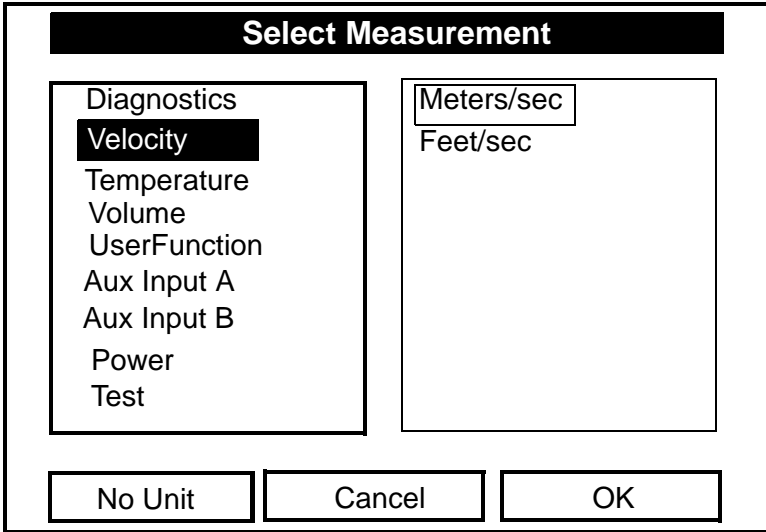

Figure 3-16: Data Source Selection Window
- The next prompt asks you to select the analog output type from a list of choices, as shown in Figure 3-16 below.
- a. Press [ENTER] to open the data source selection window, shown in Figure 3-16 on page 3-32.
- e. Press [F3] (OK) to confirm your selection.